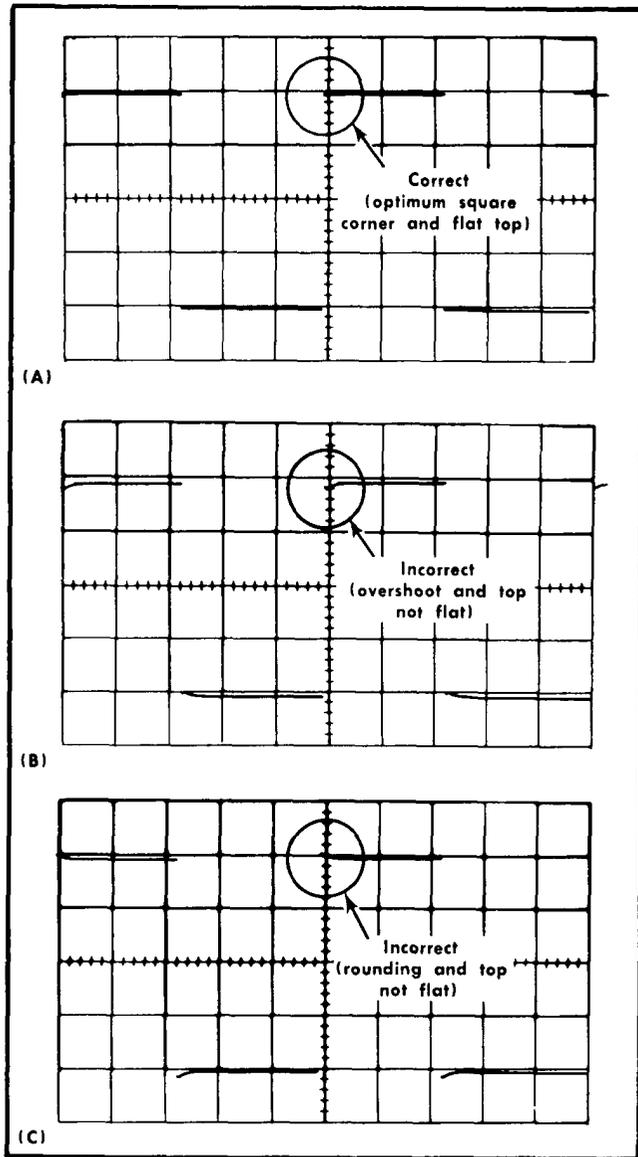

Fig. 5-5. (A) Typical CRT display showing correct compensation, (B) and (C) incorrect compensation.
d. CHECK-CRT display at each CH 1 VOLTS/DIV switch position for 3% or less overshoot, rolloff or tilt (see Fig. 5-5). Adjust the square-wave generator output amplitude as
- d. CHECK-CRT display at each CH 2 VOLTS/DIV switch position for 3% or less overshoot, rolloff or tilt (see Fig. 5-5). Adjust the square-wave generator output amplitude as needed to maintain a four-division display (except in 2, 5 and 10 positions where display will be less than four divisions).